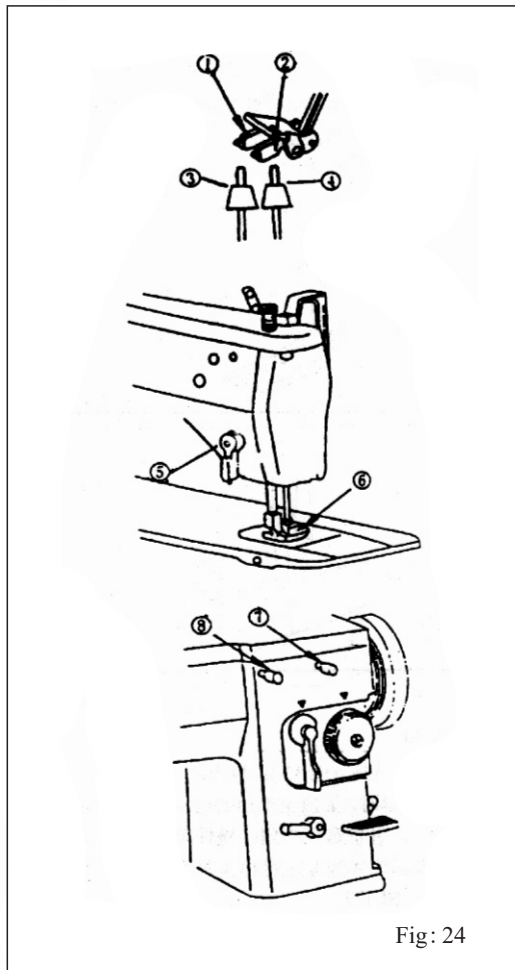

Fig: 24
20. MOUNT KNEE LIFTER (Fig.24)
1). It should be noted that any free regulation can be made at the horizontal needle distance between min-max, set the vertical needle distance to O position and will adjust the knee-control parts to make-the component control the movement of the sway of needle.(Fig. 24)